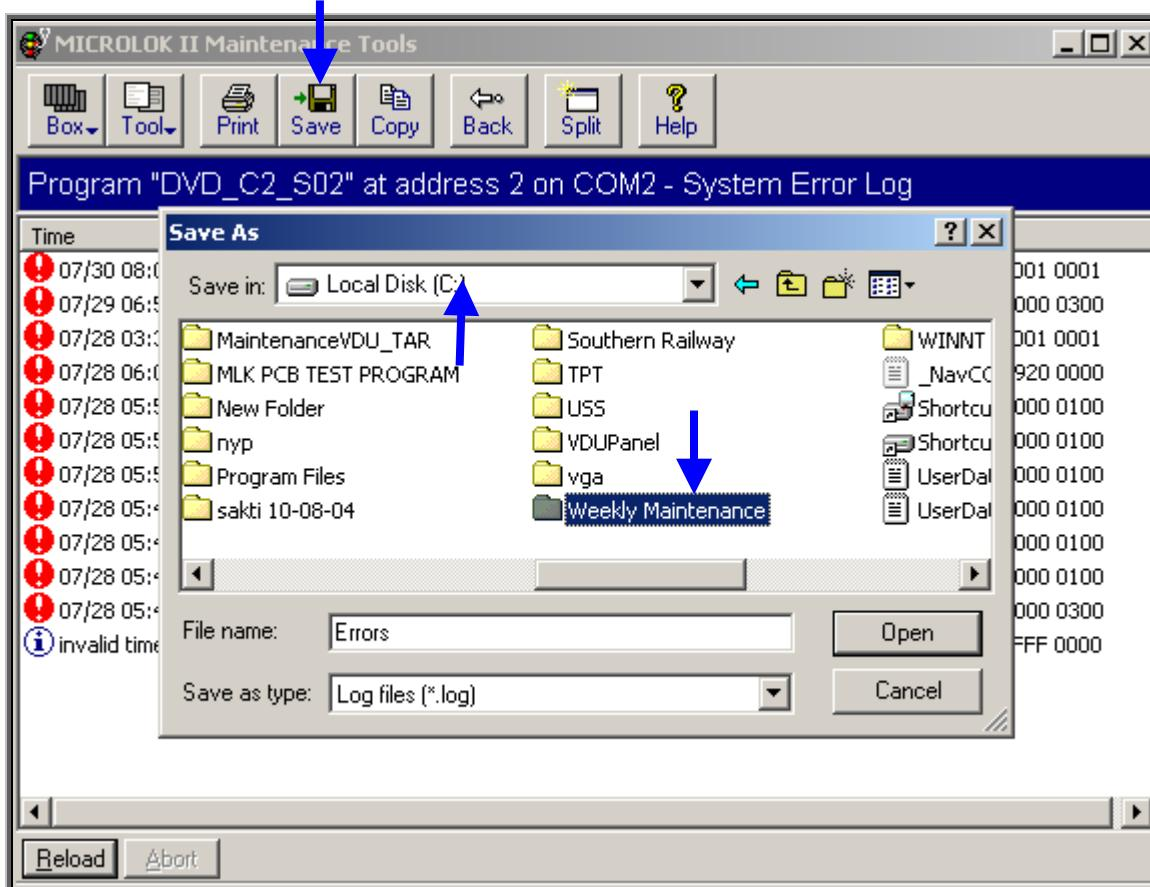

Figure-5.6.4.4
- ❖ Mini active window “Save As” appears as shown in Figure-5.6.4.4.
- ❖ Double click on the “Weekly Maintenance” folder in the Maintenance PC “C” drive (Figure-5.6.4.4).